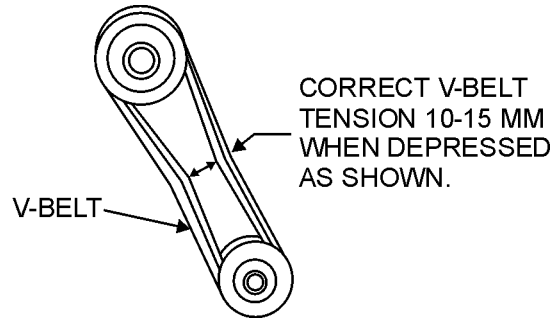

Figure 9. V-Belt Tension
2. The V-belt tension is proper if the V-belt bends 10 to 15 mm (Figure 9) when depressed with finger midway between the clutch and vibration pulley shafts.
3. Place the fuel valve lever (Figure 9) in the **OFF** position.